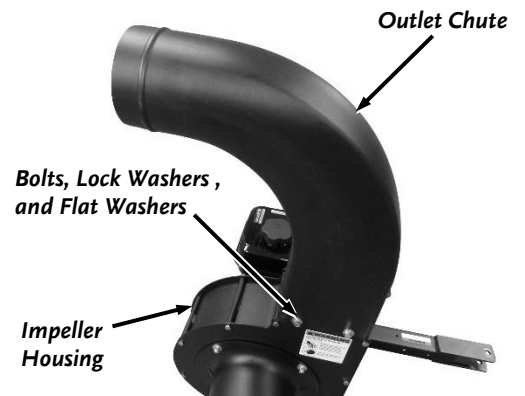

Figure 12
- Place the Outlet Chute on top of the Impeller Housing (make sure to orient it as shown) and secure with four Bolts, Lock Washers, and Flat Washers using a 1/2" Wrench (**Figure 12**).